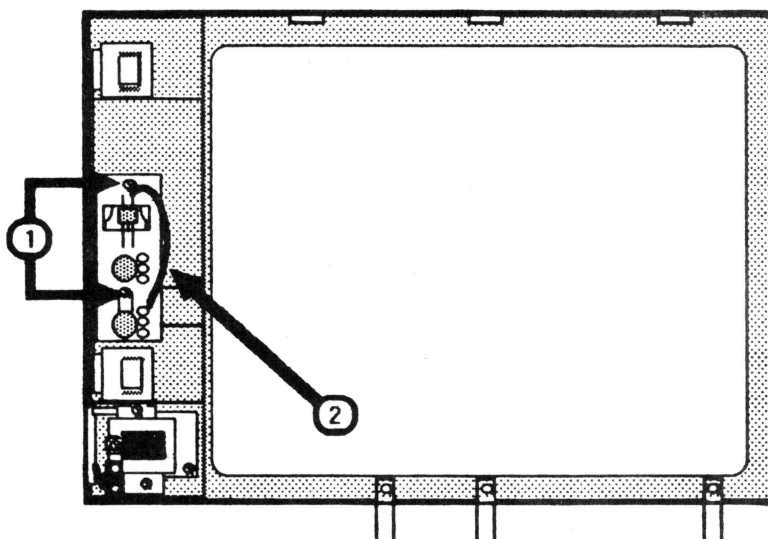

FIGURE 22
8. Remove the two screws (Figure 22, #1) that mount the metal plate to the front bezel and remove the plate.
9. Locate the wire (Figure 22, #2) that connects the brightness pot to the slide switch.